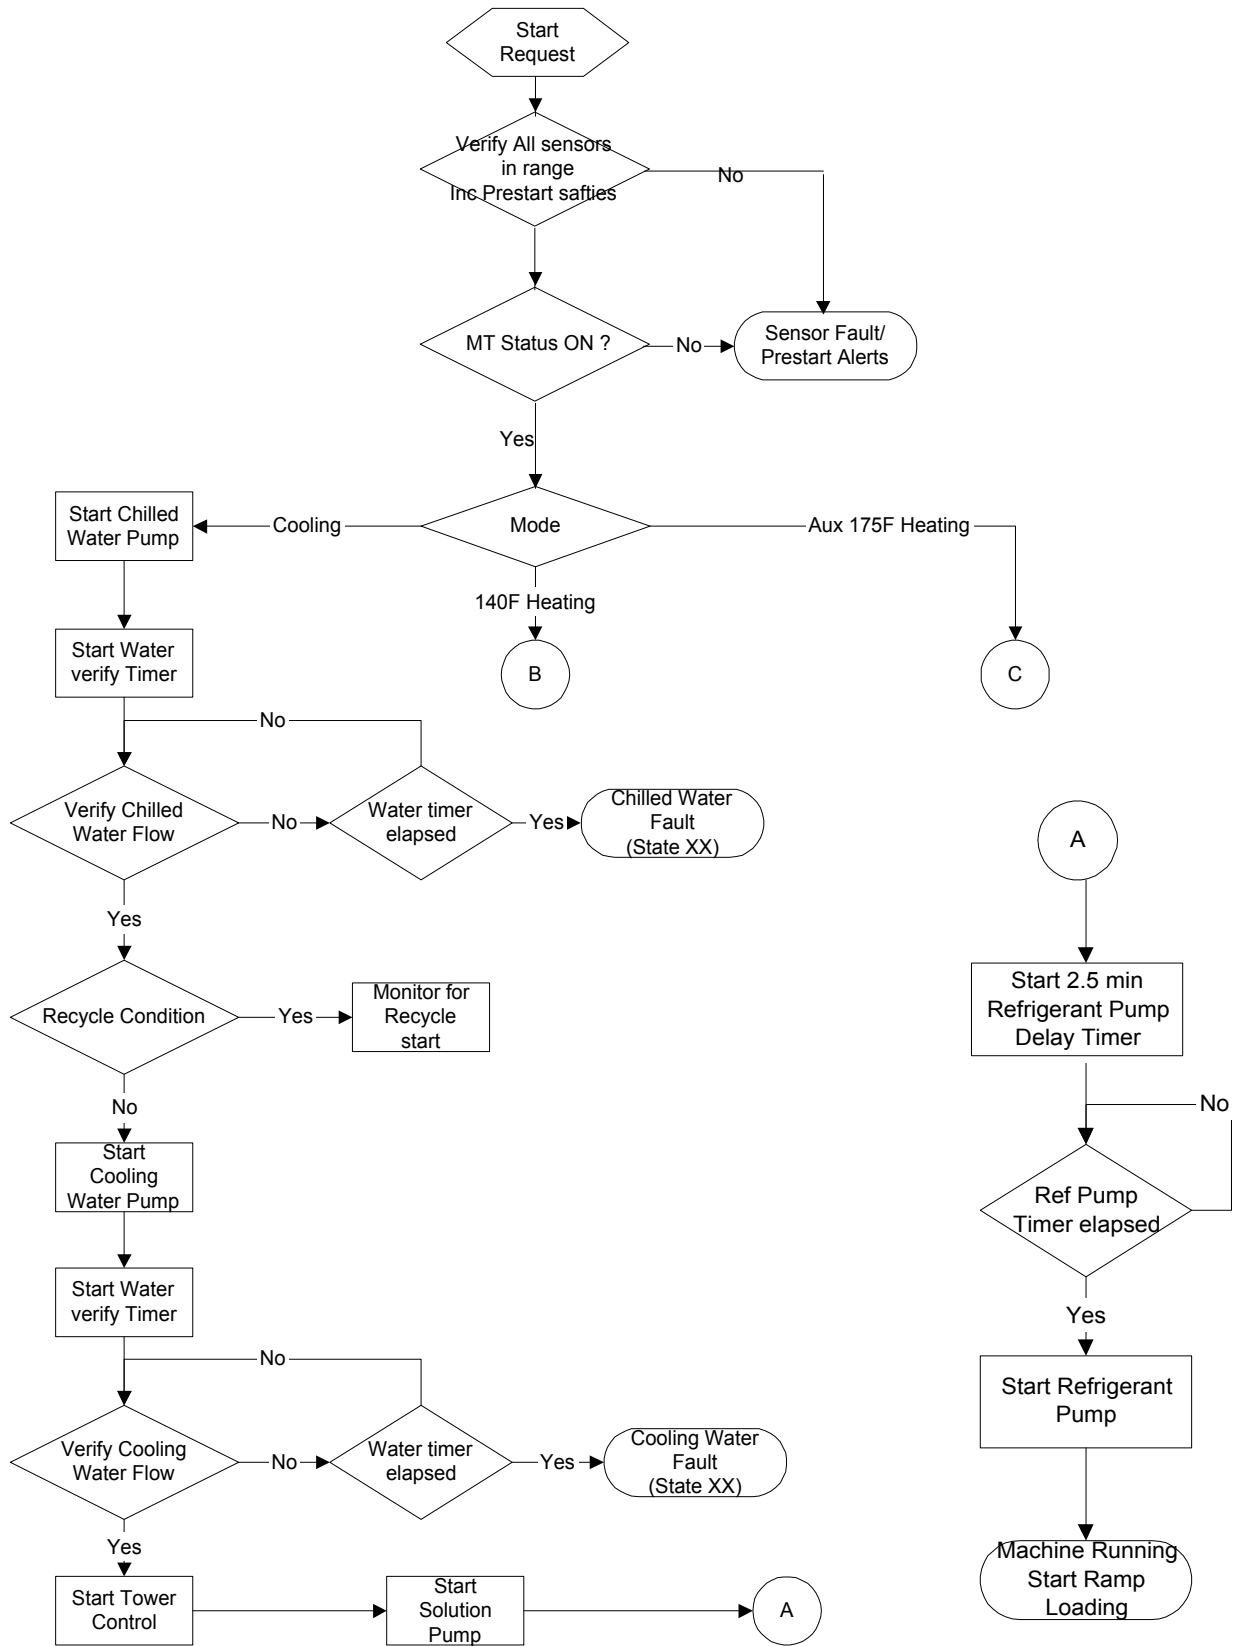

Fig. 6-1 Cooling Start-up Flowchart
Once these conditions are met, the PIC then performs a pre-start check, which is to verify Micro-turbine Status is ON. For more information on the micro-turbine status, see the Micro-Turbine (MT) Status Monitoring section. The run status line on the default screen reads 'STARTUP IN PROGRESS'. See Fig. 6-1, a flowchart of the cooling mode start-up procedure.